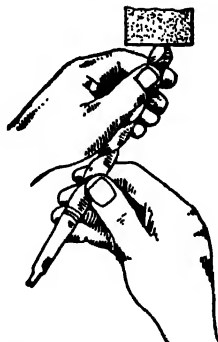

Fig. 8-25. About 59 deg. is the correct angle at which to hold drill against the face of the grinding wheel.
Theoretically, if the edges of the drill are ground at an angle of 59 deg. with the axis, the best results will be obtained in most materials. Therefore, the drill should be held at about 59 deg. with the face of the grinding wheel (Fig. 8-25). For testing the angles and the relative lengths of the cutting edges, there are several types of gages, four types being made by The Morse Twist Drill and Machine Company. Any protractor will check the angles if these special gages are not handy.
1. Hold the drill with hands placed about as shown in Fig. 8-25. (Hands may be reversed if this is found to be easier operation.)